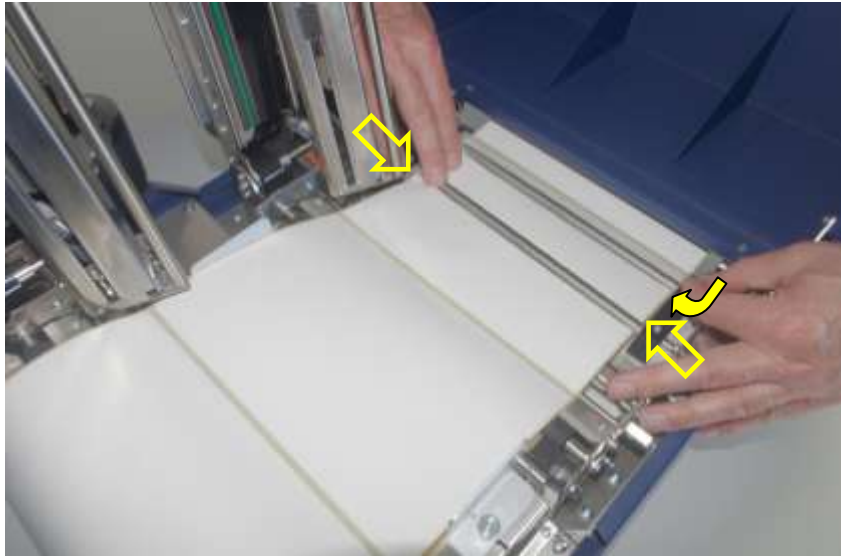

Fig. 5.1.1.j Adjusting the rear paper guide
15. Use the 2 fastening screws of the rear paper guide to fix this position of the guide (compare figure above and fig. 5.1.1.g).